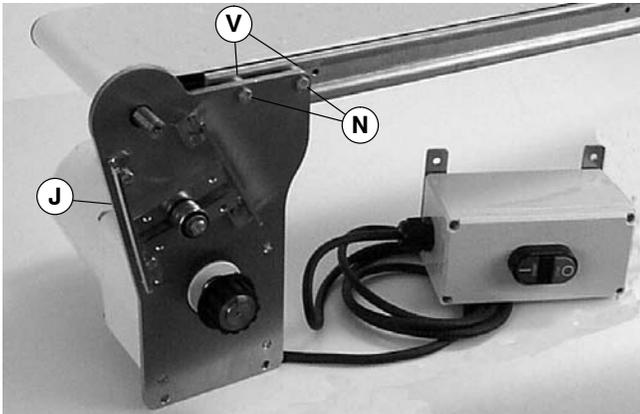

Figure 4
NOTE: For a 7300 Series mounting package, install two 1.758" (44.7mm) long spacers (V of Figure 4) (shipped loose) between mounting plate/gearmotor assembly (J) and conveyor. On a 7200 Series (shown), the two 0.438" (11.1mm) long spacers (V) are attached to the mounting plate/gearmotor assembly.
3. Attach mounting plate/gearmotor assembly (J) with screws (N). Tighten to 92 in-lb (10.4 Nm).